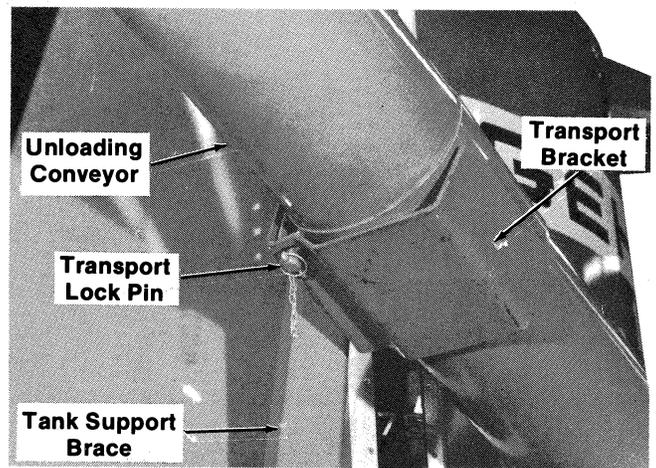

Fig. 5-12
**UNLOADING CONVEYOR (Figs. 5-12 & 5-13)**